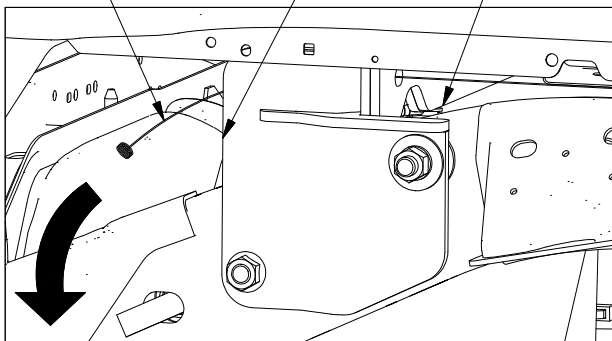

Figure H5: Looking at driver side frame.
- Pull fish wire through the cross members.** Feed the coil end of a fish wire through the holes in the front cross member parts, and the hole in the driver side plate. Move the end of the fish wire into an open space below the fuel tank and other obstacles, see Figure H5. Attach a 1/2" x 2" carriage bolt and pull the fish wire and bolt through all three parts.